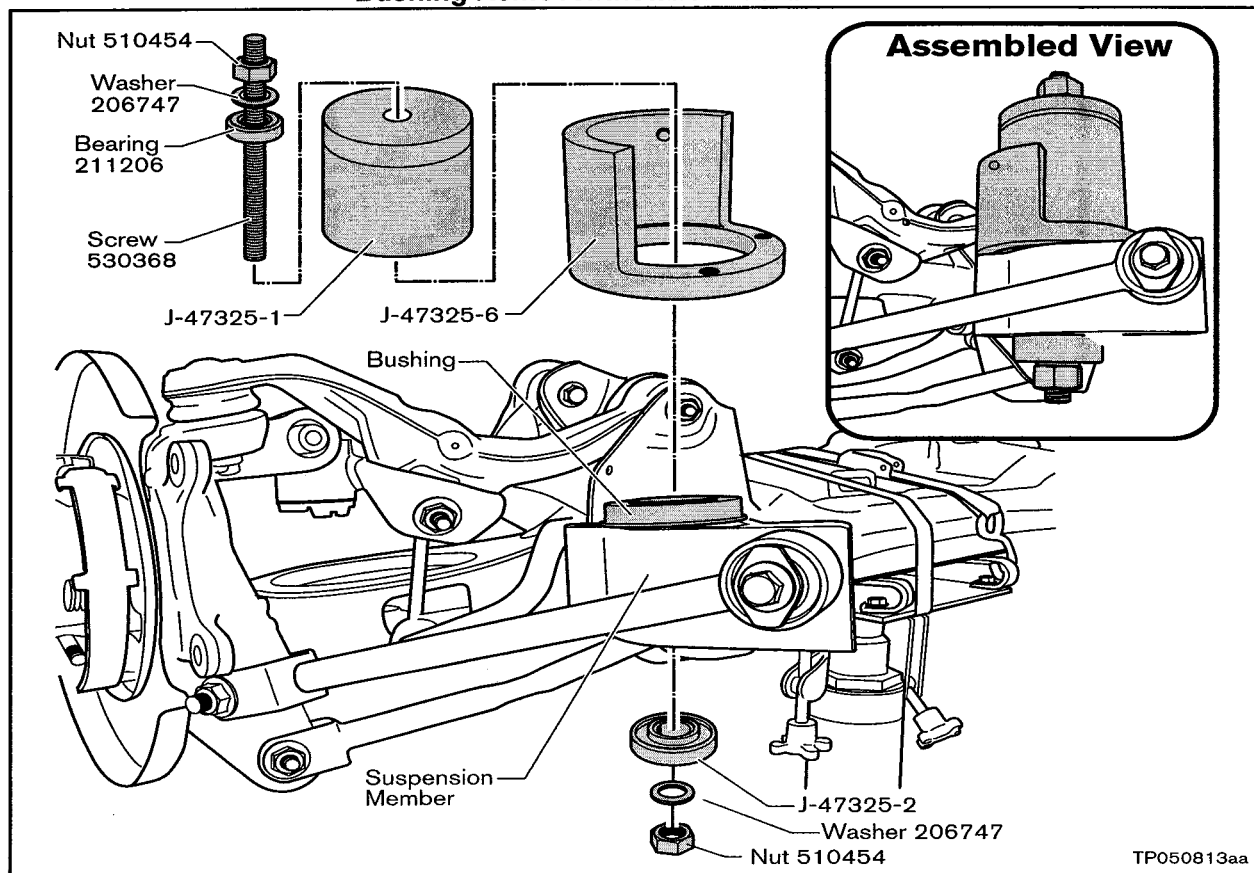

Figure C6
- a. Install the bushing remover/installer Tool #J-47325 to the **right front** (passenger side) bushing in the rear suspension member as shown in Figure C6.